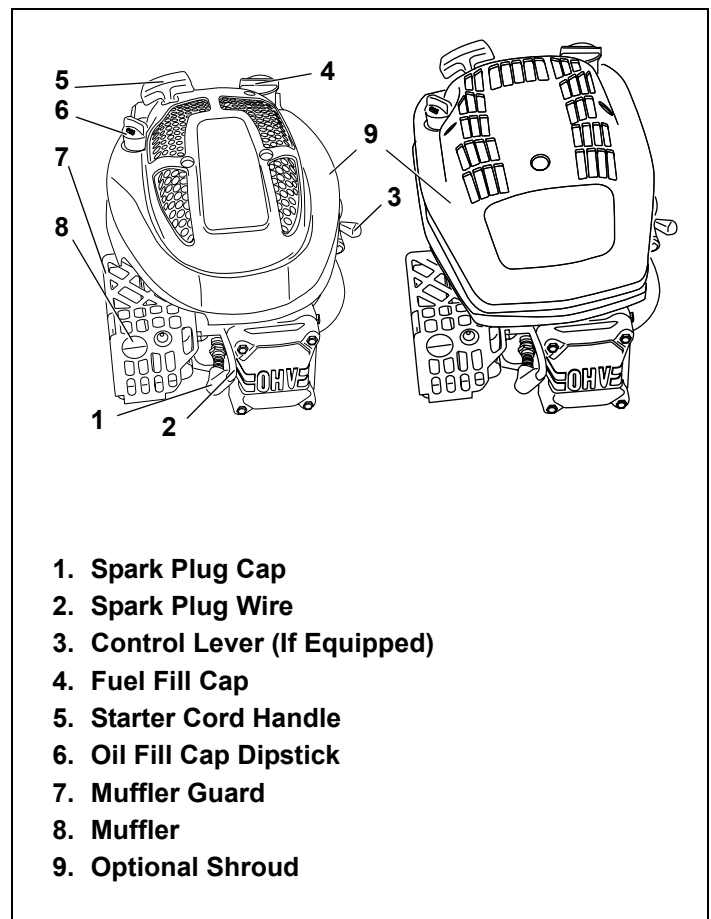

Figure 7. Engine Components
2. Unscrew oil fill cap dipstick from oil filler tube and wipe dipstick clean. See Figure 7.
3. Clean area around fuel fill cap and remove fuel fill cap. See Figure 7 on page 5. Afterward, continue reading instructions below.